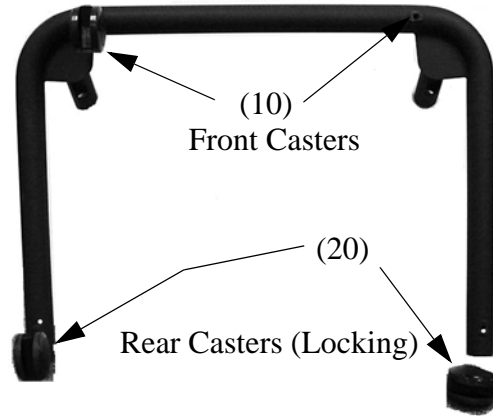
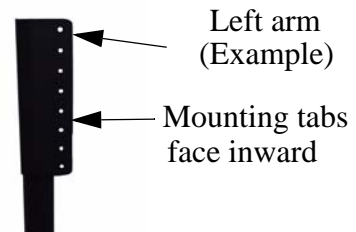
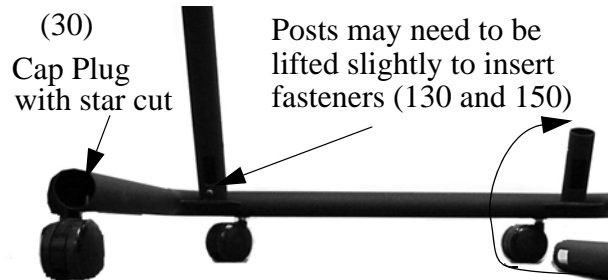

Figure 1. Install Casters
Figure 2. Turn Mounting Tabs Inward
Figure 3. Install Legs
1. Place base (100) upside down (see Figure 1).
- a. Thread two regular casters (10) into the holes near the corner support posts in the base (front) as shown in Figure 1.
- b. Thread two locking casters (20) into the holes at the end of the support posts for the base (front) as shown in Figure 1.
2. Place base (100) upright on casters.
3. Install legs for base (100) as follows:
- a. Insert left leg (110) and right leg (120) into the support posts on the base. Make sure the mounting tabs face inward (see Figure 2).
- b. Secure both legs using two washers (150) and two 1/4 x 1/2” screws (130).
- c. Install cap plugs (30) in base (see Figure 3).